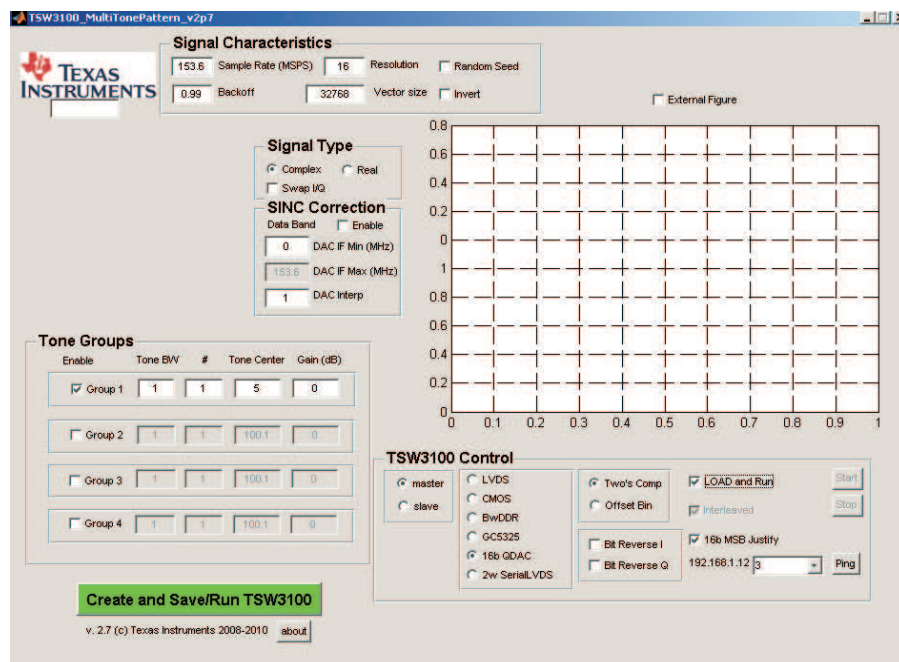

Figure 11. TSW3100 GUI
3. The TSW3100 appears as shown in Figure 11.